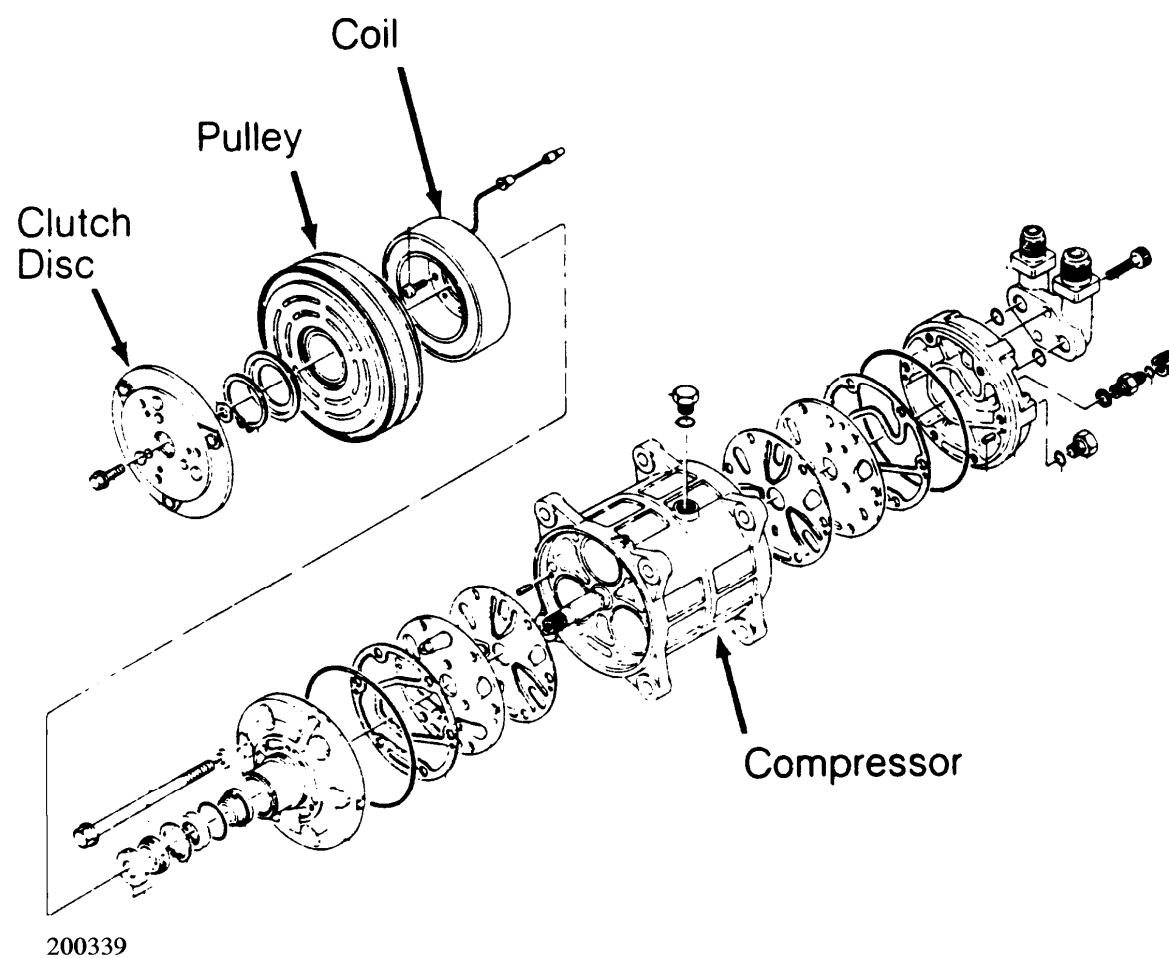

Fig. 5: Diesel Kiki 6-Cylinder Compressor
2. Thread Clutch Plate and Hub Assembly Remover (J-33013-B) into hub. Hold body of remover with a wrench and turn center screw into remover body to remove clutch plate and hub assembly. Remove shaft key and retain for assembly. See Fig. 5.